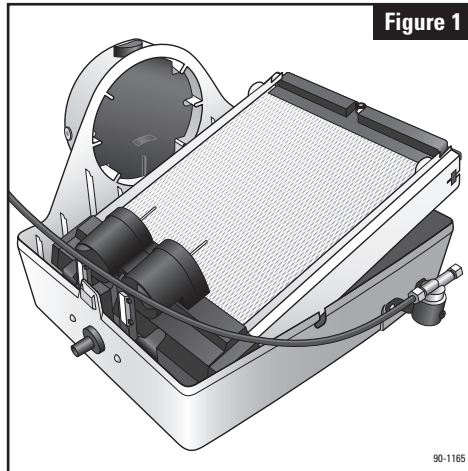
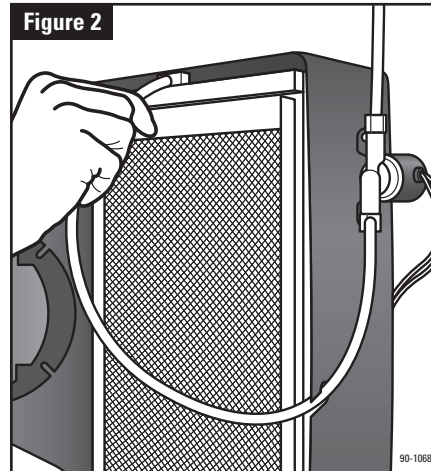

Figure 1
Figure 2
1. Press top & bottom tabs to remove cover (1). Pull feed tube (3) out of distribution tray (4). Remove Water Panel® Evaporator assembly. See **Figure 1**.
2. Humidifier is supplied with bypass duct connection on left. For right side bypass, swap location of water level sensor assembly (9) and cap (10).
4. Place humidifier base (2) in opening and secure with 6 screws in openings provided.
6. Insert Water Panel Evaporator assembly into base. Make sure bottom of scale control insert (6) is seated in water level sensor assembly (9). Snap top of evaporator assembly into base. Insert feed tube into distribution tray. See **Figure 2**. Make sure float cover (14) is snapped into place and that floats (13) move freely up and down. Rotate nameplate (11) if necessary, so it is right side up. Place point bypass damper handle (8) to "WINTER" (open) for heating season and "SUMMER" for cooling season.